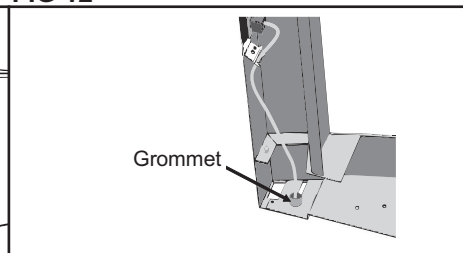

FIG 15
5. To fully remove the fascia, unclip the switch cable from the PCB connector and unclip the cable from the clipping points. The cable is routed through a plastic grommet which will have to be removed from the base plate. Refer **FIG 15**.